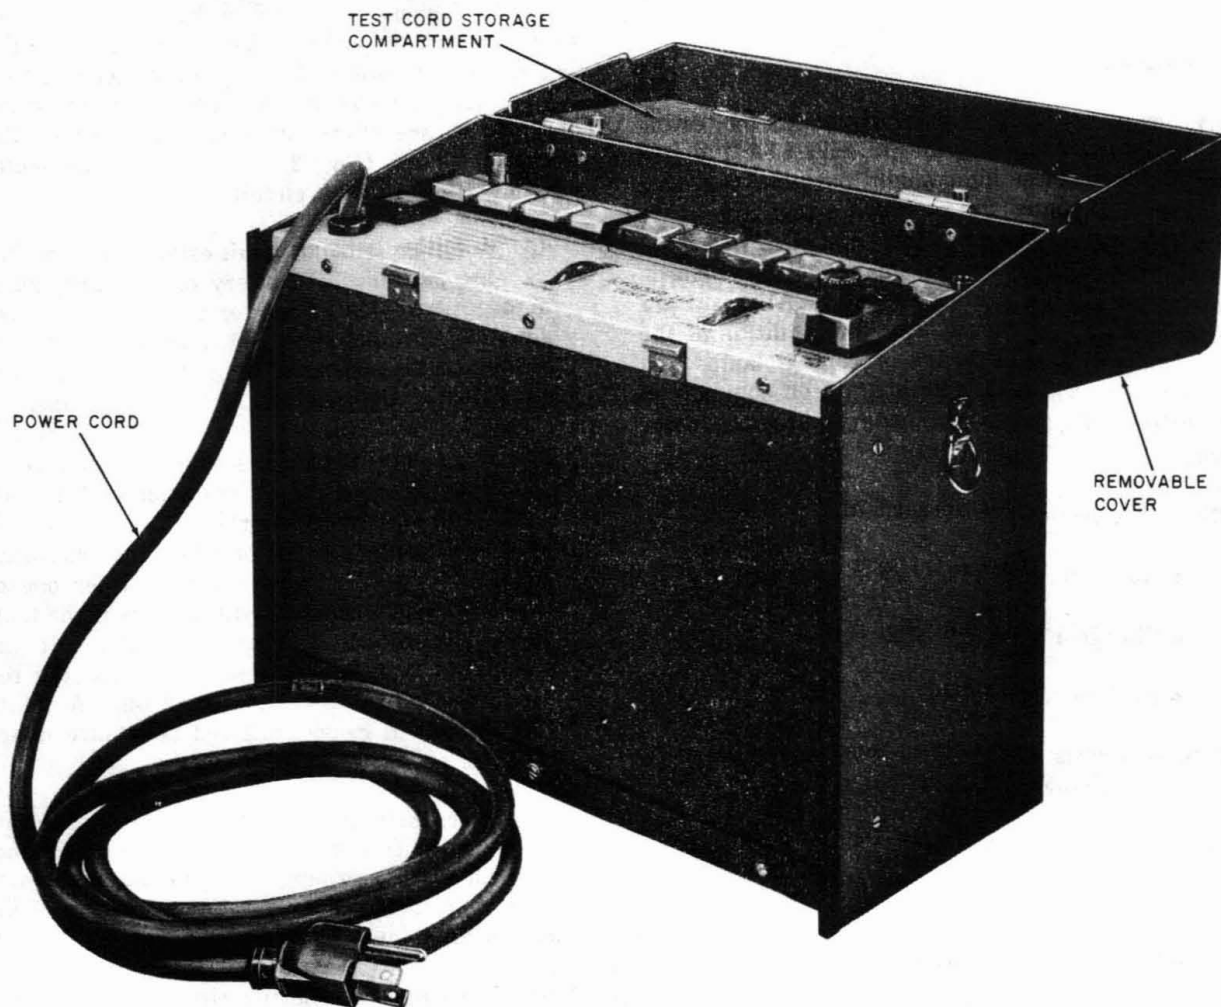
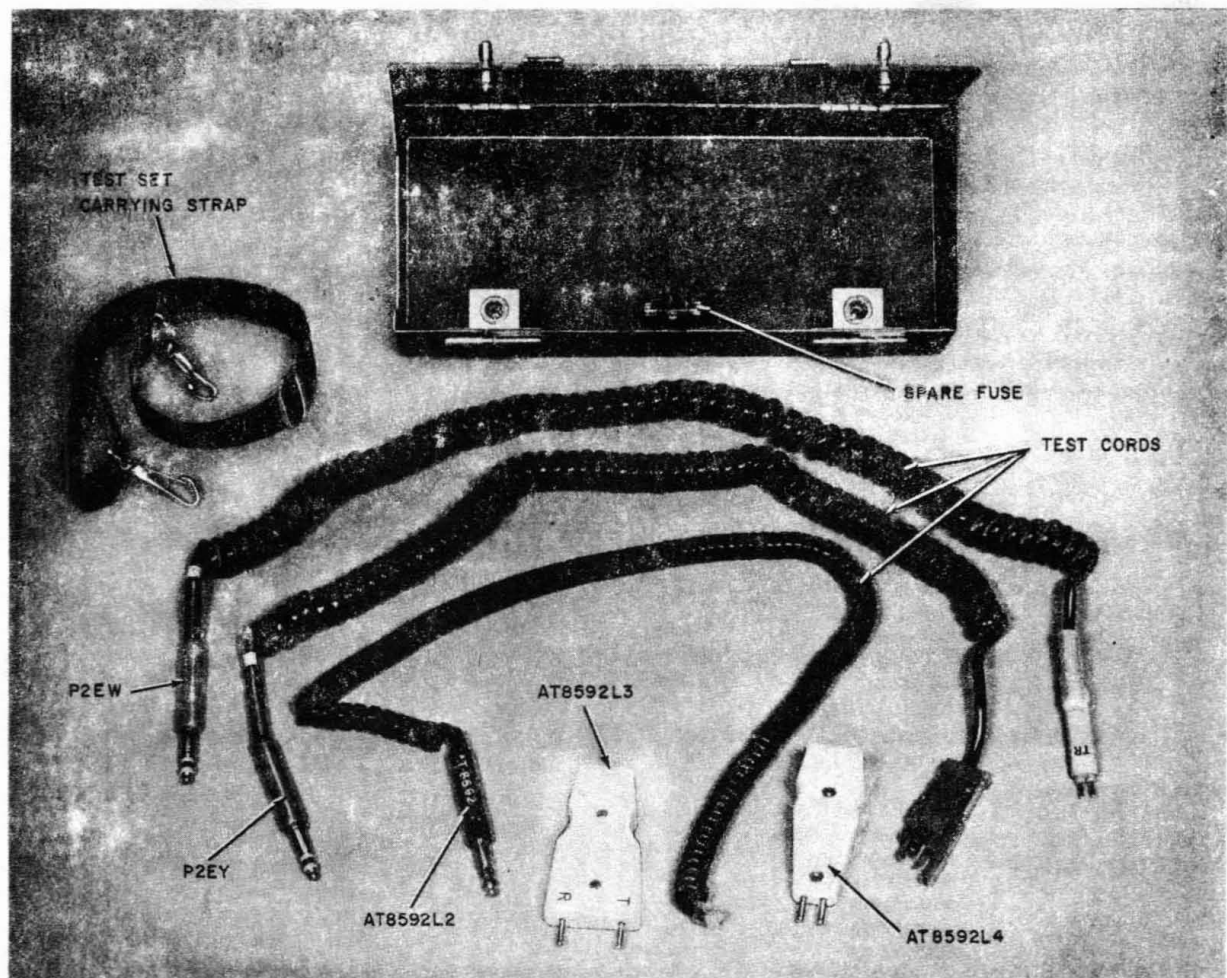
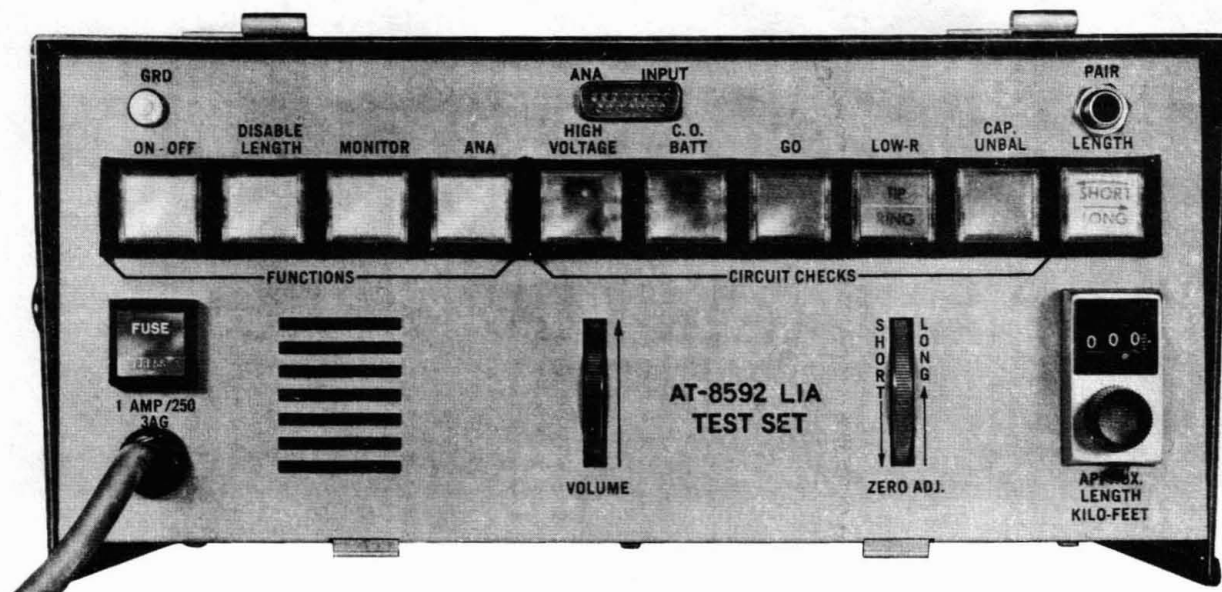

Fig. 1—AT-8592 Pair Tester
Fig. 2—♦Test Cords and Removable Cover♦
Fig. 3—Front Panel AT-8592 L1B
- Change Fig. 2 and Fig. 3
**2.01** This compact test set (Fig. 1) is approximately 12 inches by 6 inches by 11 inches and weighs about 10 pounds. The metal case of the test set is equipped with a strap for securing to a ladder step. The strap and the test cords, when not in use, are stored in a compartment of the removable cover (Fig. 2). Housed in the metal case are the following circuits:
2.02 The following controls are located on the front panel of the set (Fig. 3)